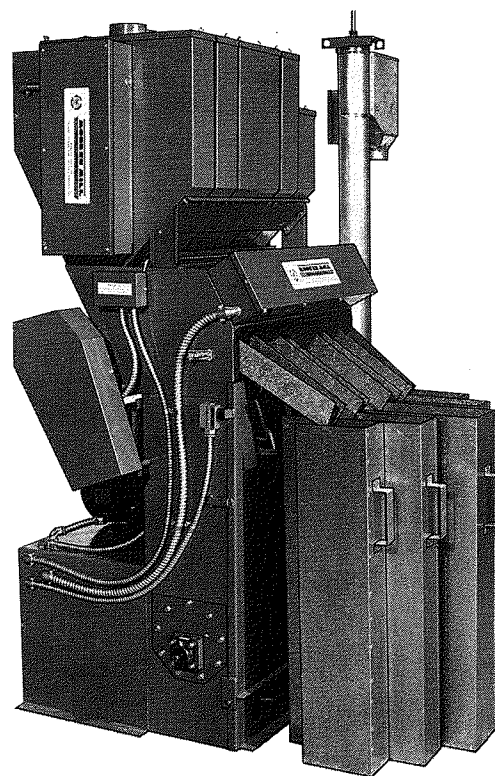

FIGURE 16
2. Put a sample container under each auger chute that will meter ingredient into the ration, Figure 16.